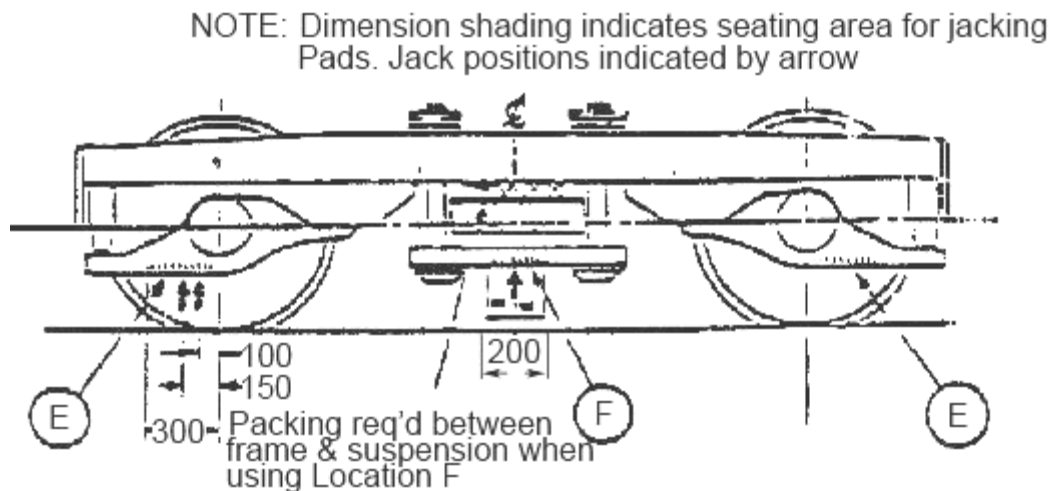

Figure 3: Bogie Jacking and Lifting Points
NOTE 7: As part of the wheel wear modification (see Section 5), all vehicles must have had alterations made to the jacking points and vehicle height packings as per modifications UUM TCS 03 (HST stock) and UUM LHC 04 (LHCS). See Figures 3 and 4 (see Reference Drawings items 1 and 2 for details).
3.4 **Location E and F** – It is permitted to jack all coaches using Locations E and F as shown in Figure 3 but it is essential that timber seating pads are employed to spread the load into the structure.
3.6 **Location F** - Jacking must be directly in line with the air spring centre line as shown in Figure 3. The BT10 is more vulnerable to damage when jacking from this position and extra care is needed as follows: